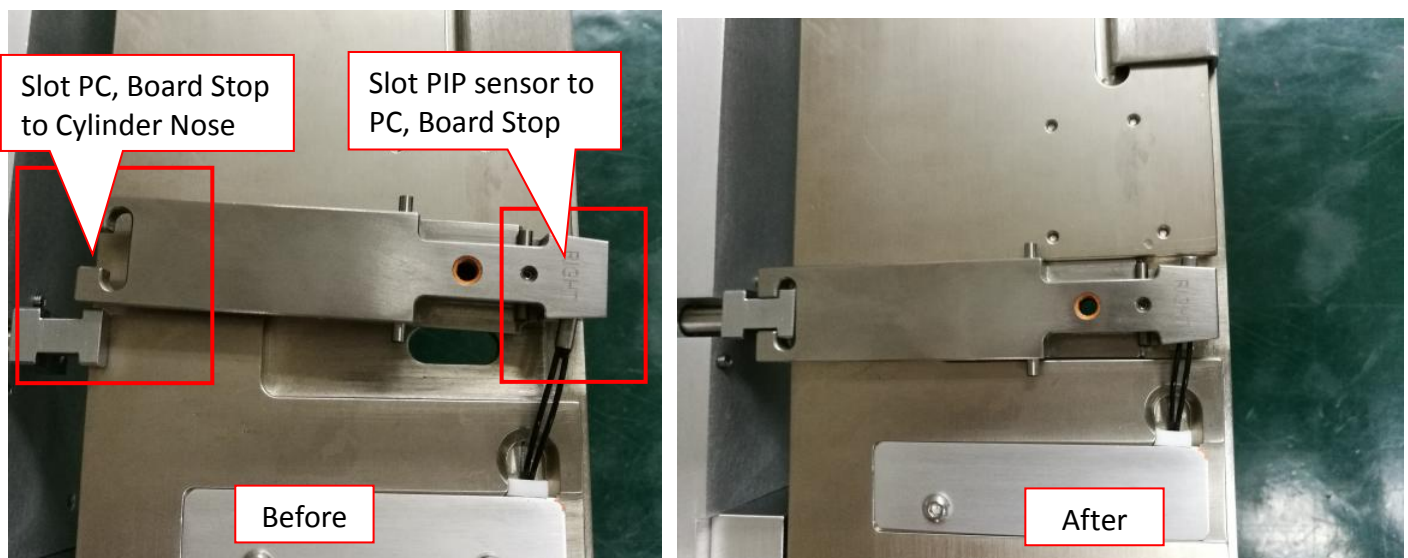

Figure 6 PC, Board Stop Assembly
2. Gently slot new PC, Board Stop into Cylinder Nose. Next, slot PIP Sensor into PC, Board Stop as Figure 6.